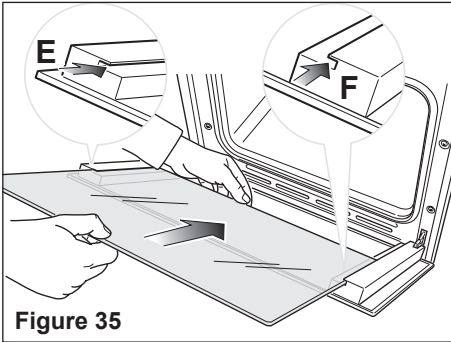
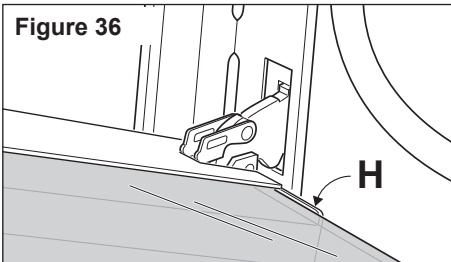

Figure 35
Figure 36
- Insert the pane in the left "E" and right "F" side guides (fig. 35), and gently slide it to the retainers "H" (fig. 36).